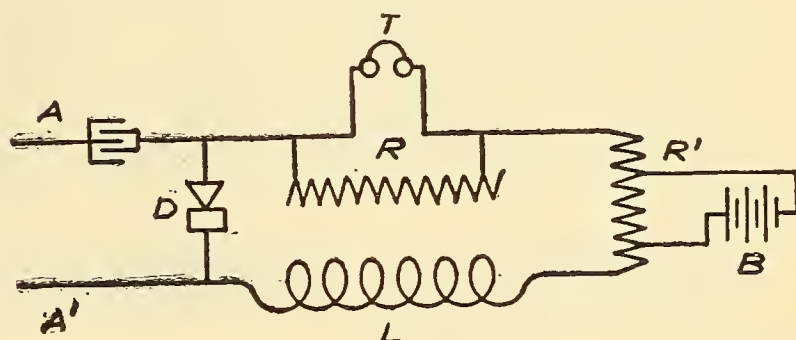

FIG. 2
od" at a station a distance of 40 miles from the transmitting aerial. Fig. 2 shows the connections, (A) and (A') representing the leads from the tuning coil, (T) the telephone receivers, (D) a carborundum detector, (L) a small choke coil, (R') and (B) the usual potentiometer and battery for a carborundum detector, and (R) a non-inductive variable resistance box. The choke coil used was the secondary of a small telephone induction coil of 180 ohms resistance. The value of the current  $I$  in the receivers is approximately proportional to the energy of the incoming waves upon the aerial and is expressed by the equation